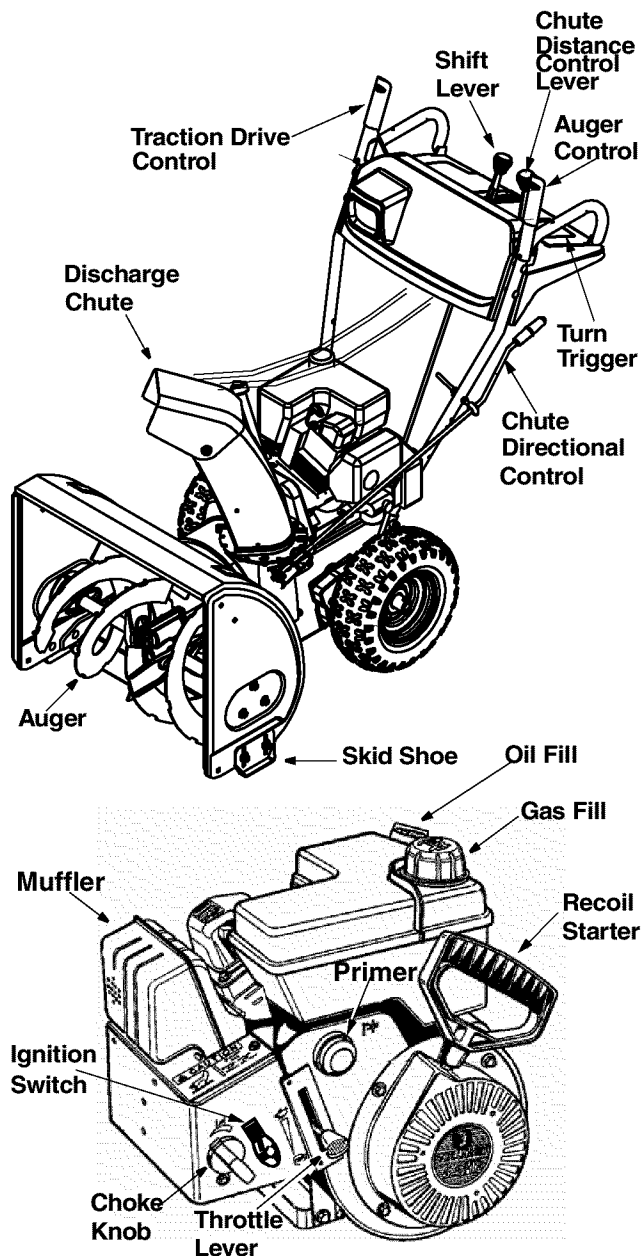

Figure 16
(See Figure 16.)
- For location of all the engine controls referred to in this section, see Figure 16.